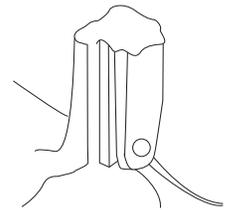

Fig. 21
7. Secure the male and vertical strut in proper relationship to each other with sticky wax or autopolymerizing acrylic (Fig. 21).